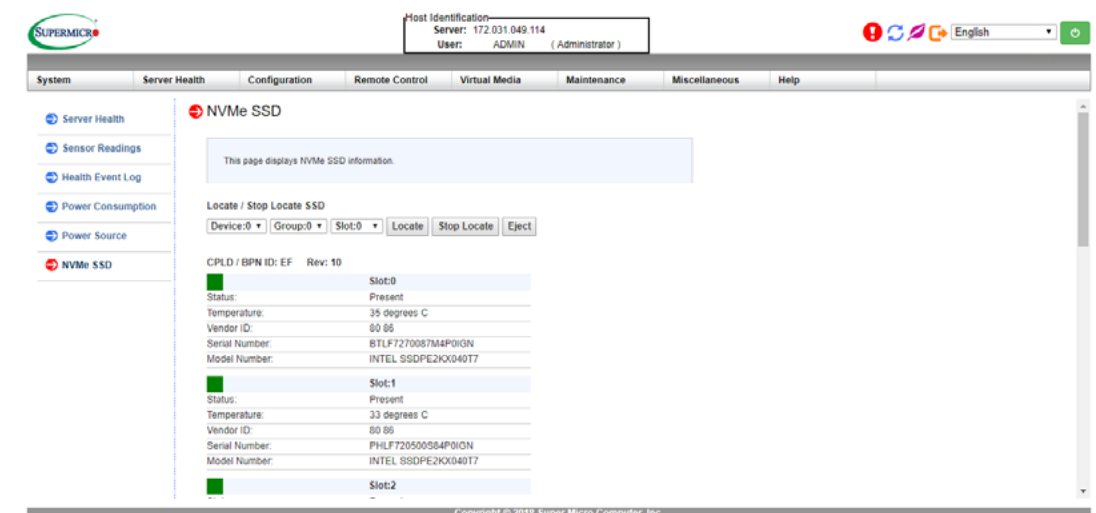

Figure 3-4. IPMI Screenshot
- **IPMI > Server Health > NVMe SSD** – Shows the temperatures of all NVMe drives, as in Figure 3-4.